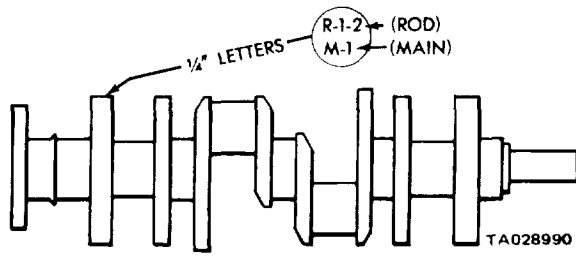

Figure 11-7. Location of Internal Marking of No. 8 Counterweight.
a. General. Crankshafts with one or more undersize connecting rods or main bearing journals are steel stamped on the milled flat on the number eight crankshaft counterweight (figure 11-7 and table 11-2). A crankshaft with 0.010 inch undersize journals has all rod journals, all main journals, or both, undersize. When replacing a crankshaft, replace all main and connecting rod bearings with the correct size new bearings: selective fitting is not required.